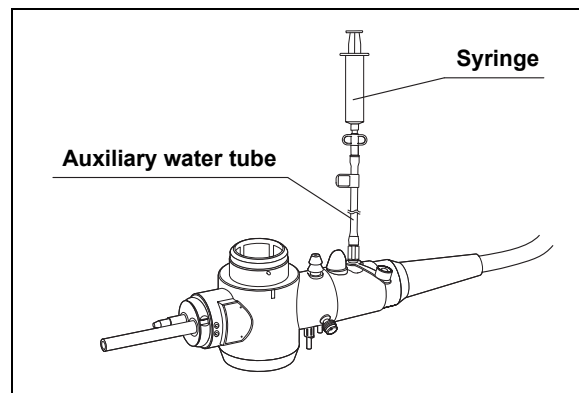

Figure 3.28
1. Attach the auxiliary water tube to the auxiliary water inlet (see Figures 3.28 and 3.29).